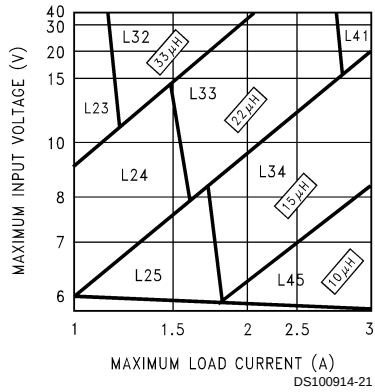
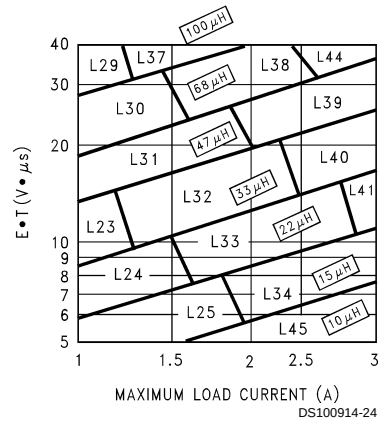

FIGURE 3. LM2676-3.3
FIGURE 6. LM2676-ADJ
**Step 3:** Determine the inductor required by using one of the four nomographs, *Figure 3* through *Figure 6*. Table 1 provides a specific manufacturer and part number for the inductor.
**Step 5:** Determine an input capacitor from Table 4 for fixed output voltage applications. Use Table 2 to find the specific capacitor type. For adjustable output circuits select a capacitor from Table 2 with a sufficient working voltage (WV) rating greater than  $V_{in\ max}$ , and an rms current rating greater than one-half the maximum load current (2 or more capacitors in parallel may be required).
**Step 3:** Use the nomograph for the 3.3V device, *Figure 3*. The intersection of the 16V horizontal line ( $V_{in\ max}$ ) and the 2.5A vertical line ( $I_{load\ max}$ ) indicates that L33, a 22 $\mu$ H inductor, is required.
**Step 3:** To use the nomograph for the adjustable device, Figure 6, requires a calculation of the inductor Volt•microsecond constant ( $E \cdot T$  expressed in  $V \cdot \mu s$ ) from the following formula:
Using Figure 6, the intersection of 27V•μS horizontally and the 2A vertical line ( $I_{load}$  max) indicates that L38, a 68μH inductor, should be used.
**Important Note:** When using the adjustable device in low voltage applications (less than 3V output), if the nomograph, Figure 6, selects an inductance of 22μH or less, Table 6 does not provide an output capacitor solution. With these conditions the number of output capacitors required for stable operation becomes impractical. It is recommended to use either a 33μH or 47μH inductor and the output capacitors from Table 6.